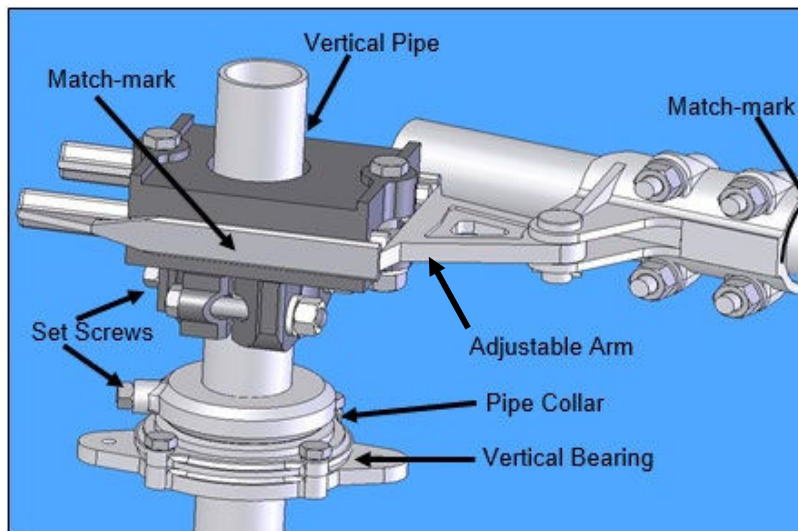

Figure 15: Typical Operating Arrangement
- 5.6. Refer to the Operating Mechanism drawing and install all mounting brackets, bearings, bushings, pipe clevises, switch operating device, adjustable arm, reach rod, and other necessary components. Refer to **Figure 15**. Do not connect the interphase pipe at this time.
- 6.1. The operating mechanism is intended to fully open and fully close the disconnect switch by rotating the vertical operating pipe $180^{\circ}\pm$ using an operator (manual or electrical). The interphase pipe controls the individual operation of each switch pole, using a push/pull control. The reach rod translates the motion of the vertical operating pipe to the interphase linkage. The adjustable arm (**Figure 15**) controls the total amount of switch operation available.